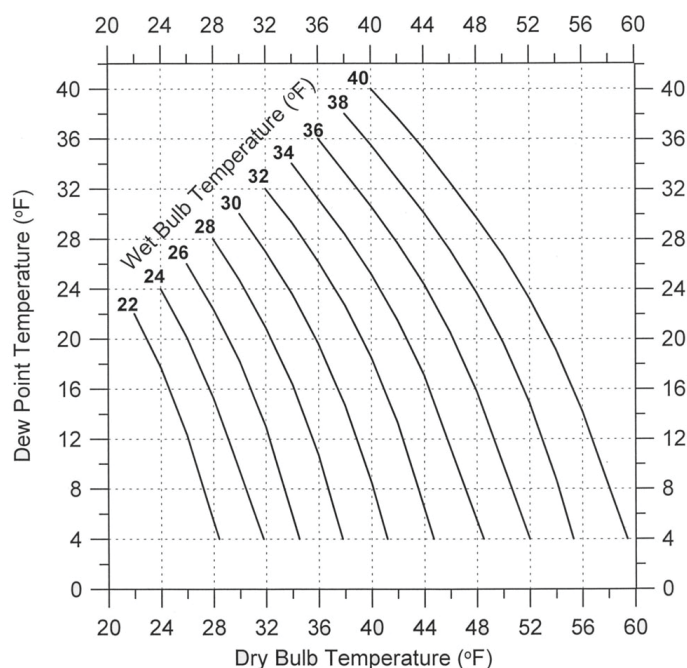
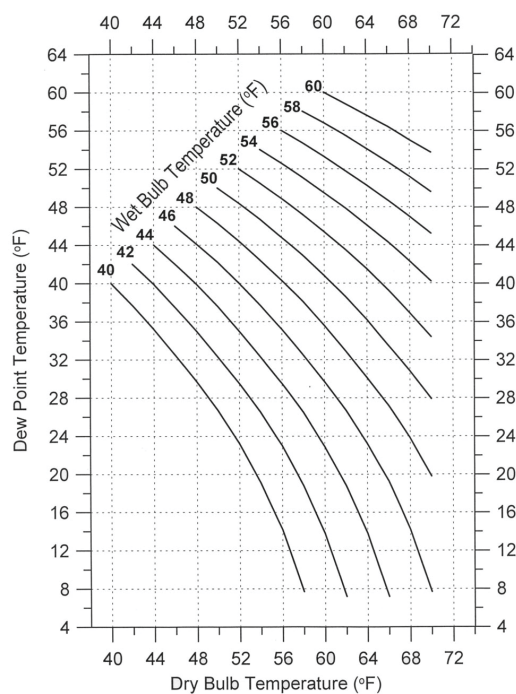
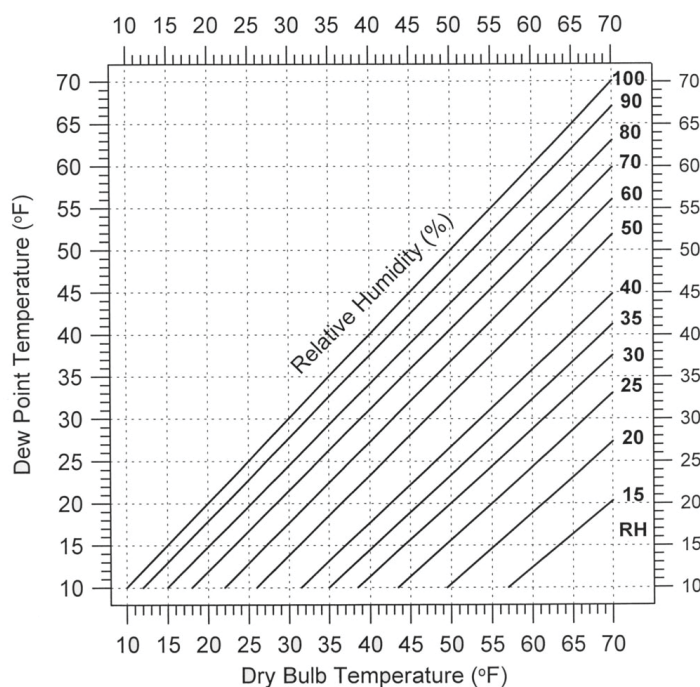

Figure 3. Wet bulb, dry bulb, and dew point temperature relationships for wet bulb temperatures less than 40°F.
Figure 4. Wet bulb, dry bulb, and dew point temperature relationships for wet bulb temperatures from 40°F–60°F.
Figure 5. Relationships between dry bulb temperature, relative humidity, and dew point temperature.
When wet bulb and dry bulb temperatures are known, Figure 3 and Figure 4 can be used. (Figure 4 for  $T_{wb} < 40^\circ\text{F}$  and Figure 5  $T_{wb} 40\text{--}60^\circ\text{F}$ ). Locate  $T_{db}$  on the bottom axis and go up to the curve with the measured  $T_{wb}$ . The dew
Using Figure 4, locate 60°F on the bottom axis and go up to the  $T_{wb} = 46^{\circ}\text{F}$  curve. The value of  $T_{dp}$  can be read from the vertical axis as 30°F.
If  $T_{db}$  and the relative humidity (RH) are known,  $T_{dp}$  can be determined from Figure 5. Locate  $T_{db}$  on the bottom axis and go up to the line that represents the measured relative humidity.  $T_{dp}$  is read from the vertical axis value from the intersection of the  $T_{db}$  and RH lines.
Select Figure 5 (for relationships between  $T_{db}$ , RH, and  $T_{dp}$ ). Enter the figure on the bottom axis at  $T_{db}$  of 45°F and go straight up until the RH = 50% line is intersected. Read the  $T_{dp}$  from the vertical axis as  $T_{dp} = 32^{\circ}\text{F}$ .